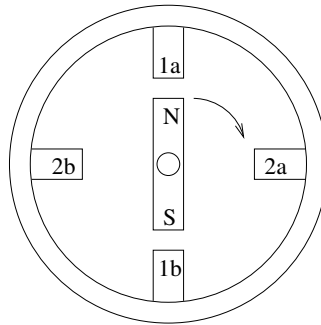

Figure 5.19: Permanent magnet stepper motor.
*Permanent magnet stepper motors* basically consist of a permanent magnet rotor and two stator coil pairs (called *phases*), see Figure 5.19. If a coil is excited, it attracts the rotor, which will move to align itself to the coil and then stop. If we successively excite coils 1a, 2a, 1b, 2b, we cause the rotor to turn clockwise in four distinct steps of  $90^\circ$  each, thereby executing one revolution. To increase the number of steps per revolution, one can increase the number of magnetic poles on the rotor.